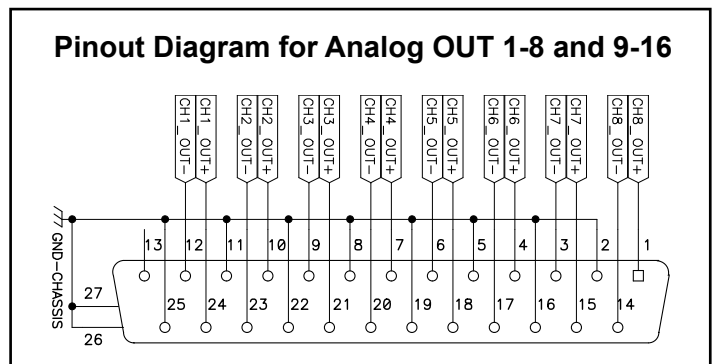

Figure 3
1) **OUT 1-8** - This DB-25 connection provides analog outputs 1-8; analog outputs are balanced line level signals at a nominal level adjustable between. Apogee’s DA8-IFC breakout cable can connect here to provide 8 XLR male connectors. (pinout Figure 3).
2) **OUT 9-16** - This DB-25 connection provides analog outputs 9-16. Apogee’s DA8-IFC breakout cable can connect here to provide 8 XLR male connectors (pinout Figure 3).